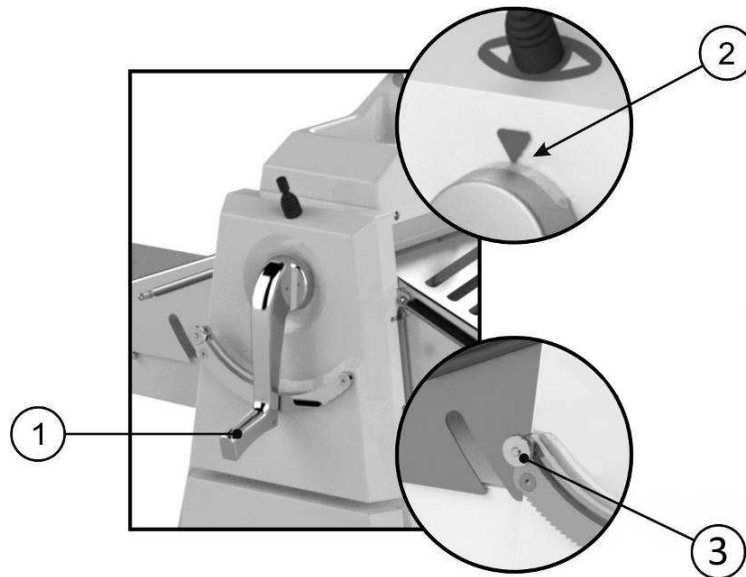

Figure 9
Use the adjustment handle ref. 1 Figure 9 to change the opening of the laminating cylinders and consequently the thickness of the dough being processed until the desired thickness is achieved. The machine is fitted with an adjustable mechanical stop ref. 3 that allows setting the final required thickness so as to obtain perfect process repeatability.